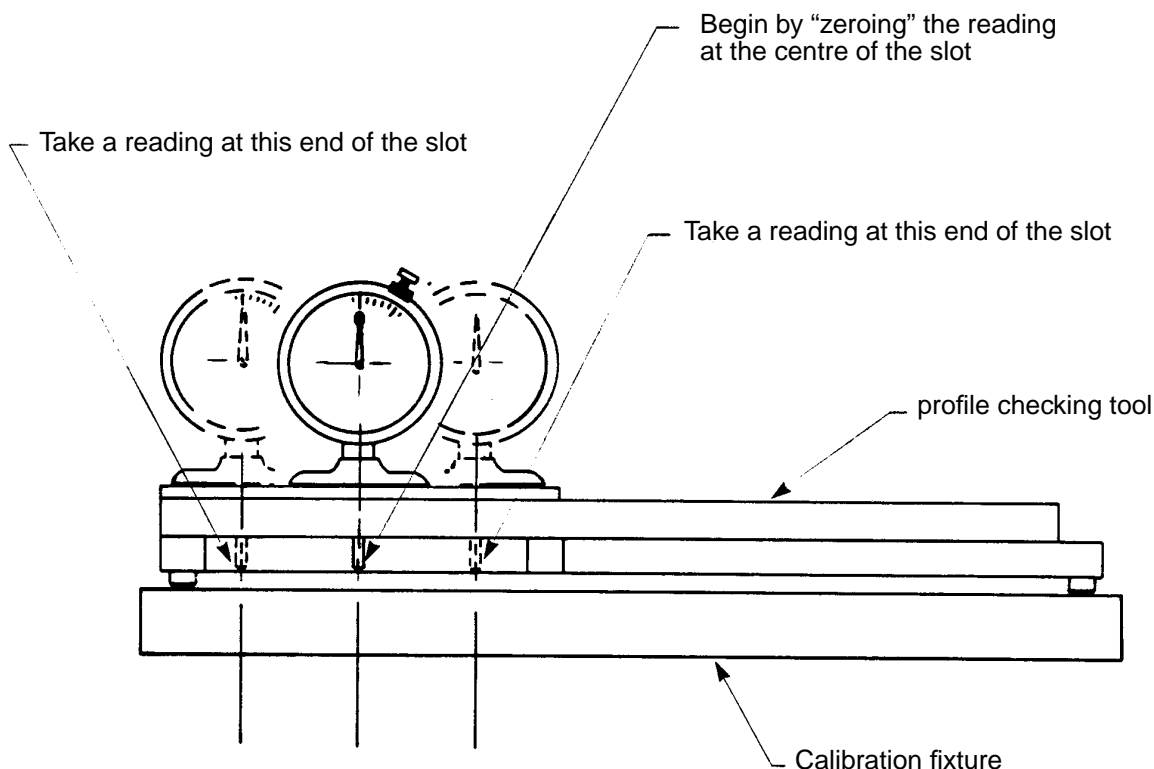

FIGURE 5 - CALIBRATION OF PROFILE CHECKING TOOL
- 5.3.1 For each aircraft installation, calibrate the left hand (LH) and right hand (RH) profile checking tools as follows before checking the aircraft:
- Step 5. Move the depth indicator to each end of the slot in the profile checking tool and take a reading (see Figure 5). The reading at both ends of the slot must be within 0.001" of "zero".